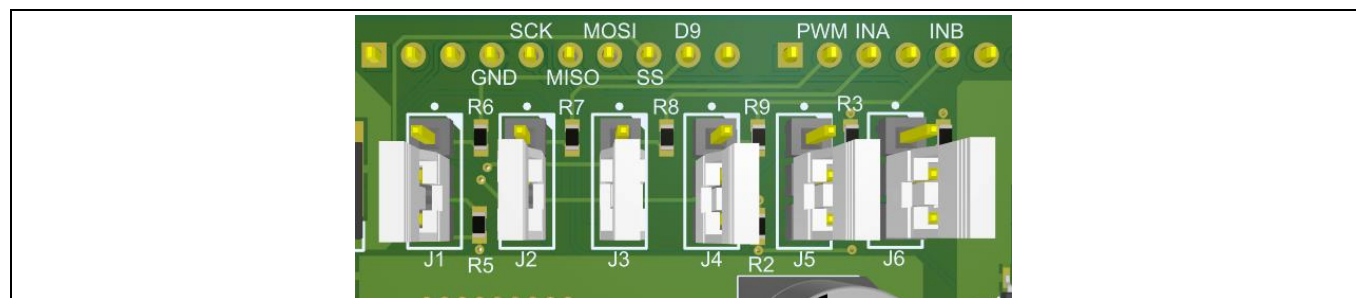

Figure 8 J1 - J6 pin header placement
2. Place J1 to J5 as shown in **Figure 8**